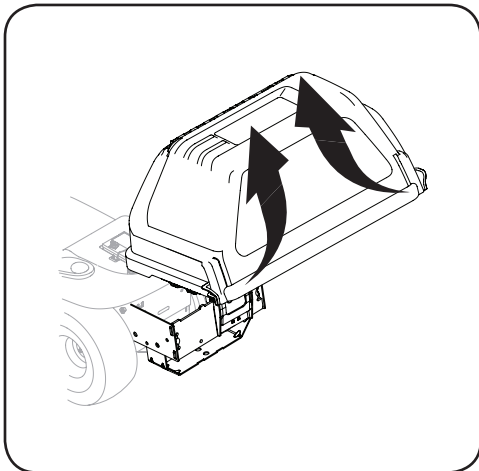

Figure 5-2
3. Open the grass catcher cover by pushing in on the rear, right-side tab and rear left-side tab, as seen in 1 of Figure 5-2, and lifting the cover from the rear of the bagger cover, 2. Do not remove the chute tube assembly from the tractor.